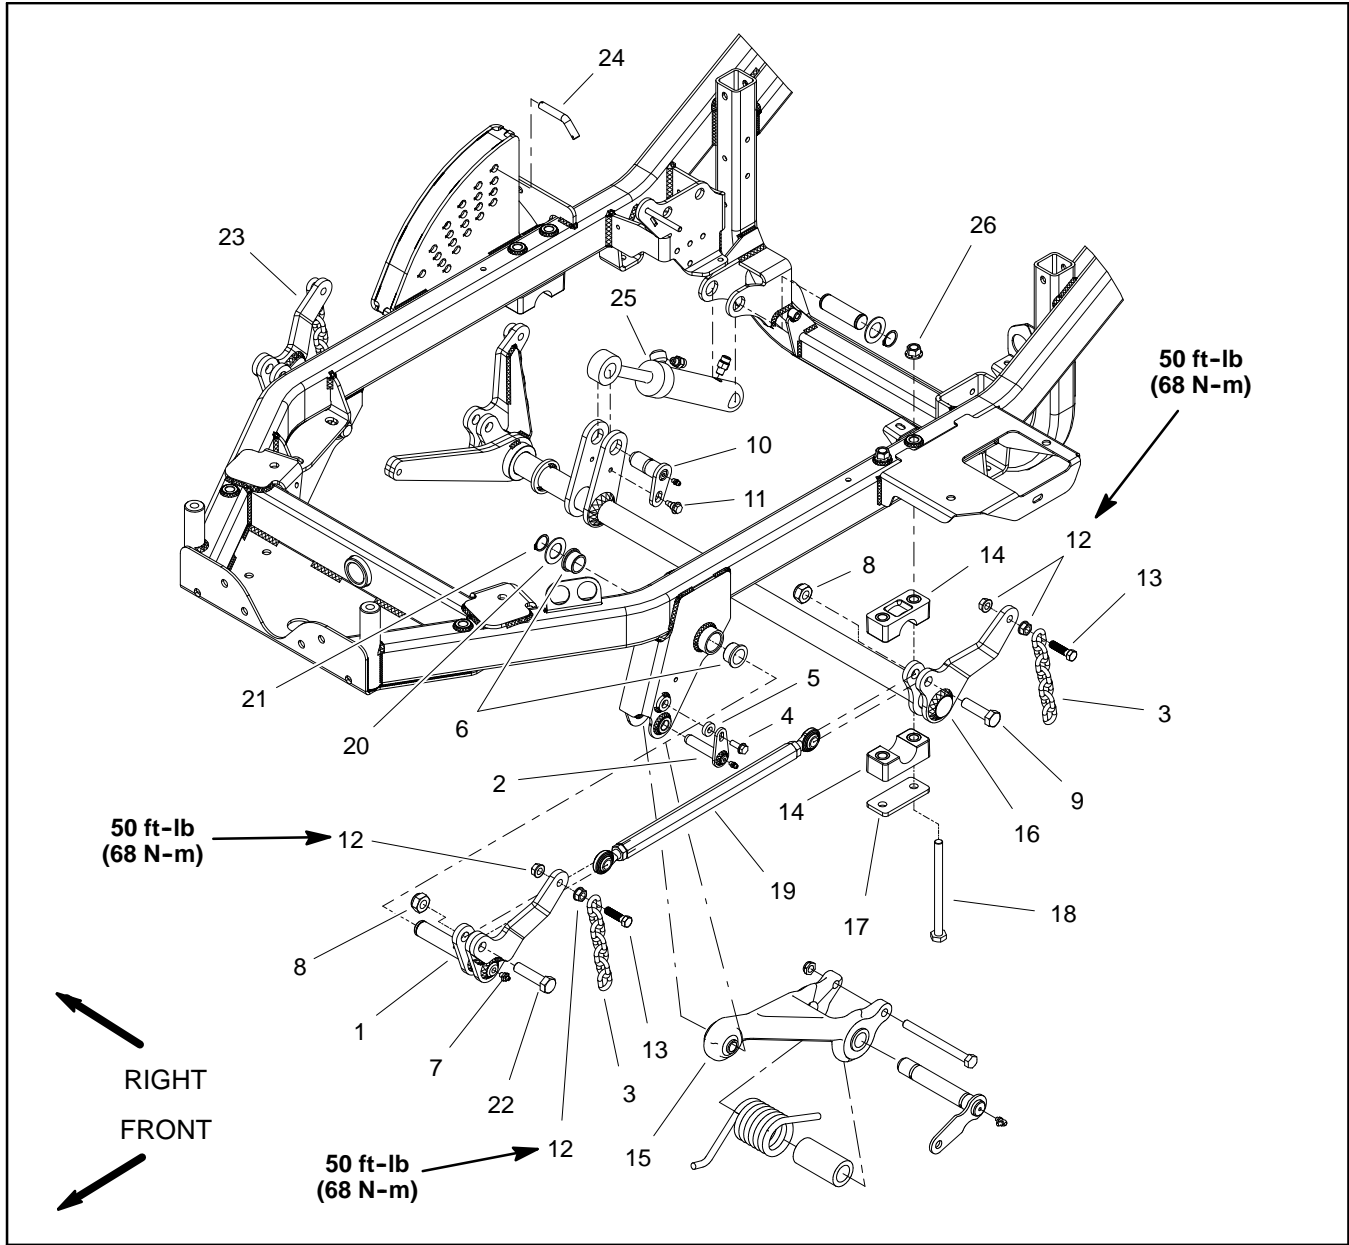

Figure 44
### Disassembly (Fig. 44)
2. Remove lift arm components as necessary using Figures 44 and 46 as guides.
**NOTE:** If pull link assembly (item 15) removal is necessary, refer to Cutting Deck Pull Links in the Service and Repairs section of Chapter 7 - Cutting Deck.
### Assembly (Fig. 44)
1. Check bearing caps (item 14) and flange bushings (item 6) for wear or damage. Replace components if necessary.
2. Install lift arm components as necessary using Figures 44 and 46 as guides.